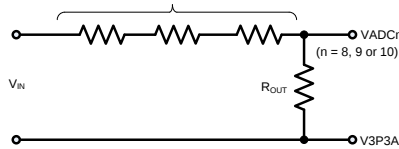
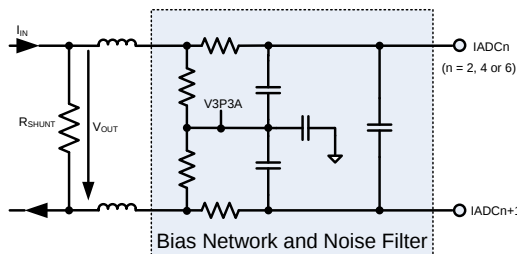
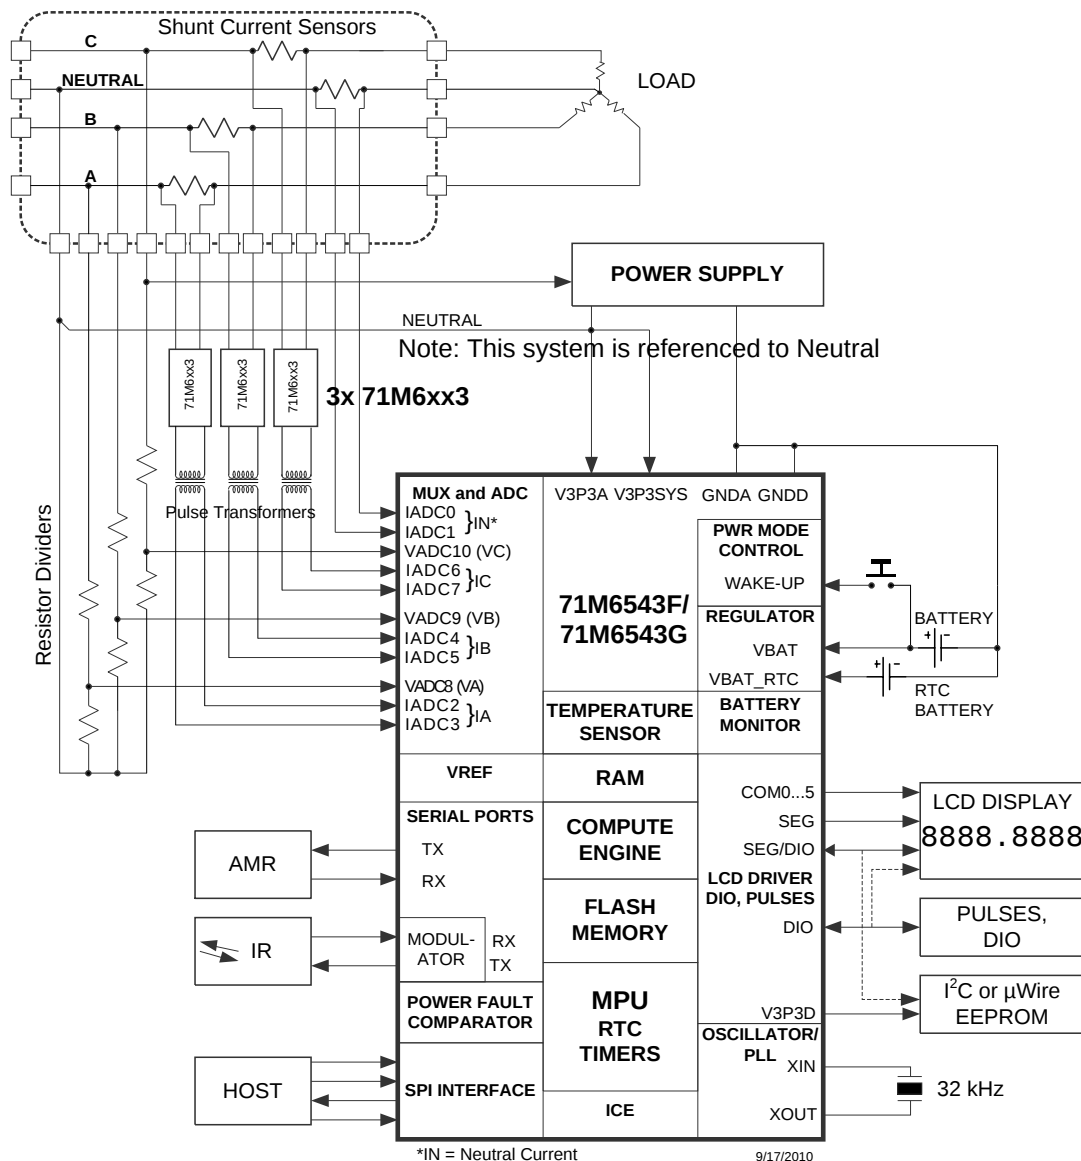
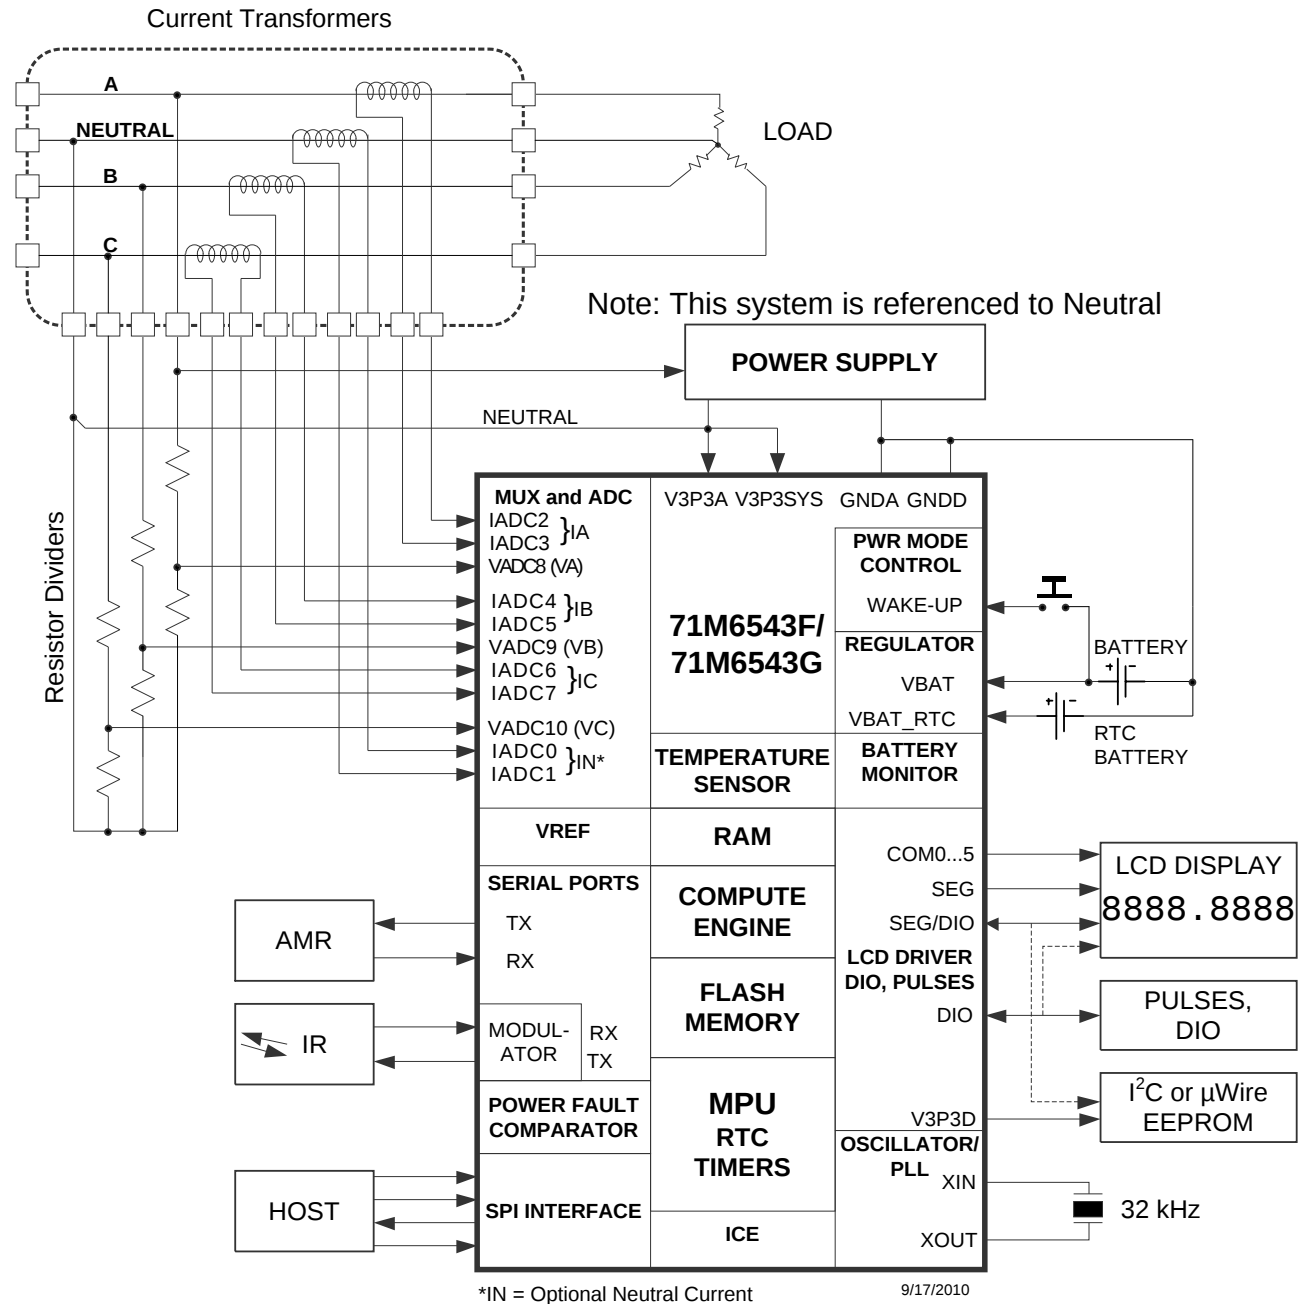

Figure 27: Resistive Voltage Divider (Voltage Sensing)
Figure 30: Differential Resistive Shunt Connections (Current Sensing)
Figure 31: System Using Three-Remotes and One-Local (Neutral) Sensor
Figure 32. System Using Current Transformers
Figure 27 through Figure 30 show voltage-sensing resistive dividers, current-sensing current transformers (CTs) and current-sensing resistive shunts and how they are connected to the voltage and current inputs of the 71M6543. All input signals to the 71M6543 sensor inputs are voltage signals providing a scaled representation of either a sensed voltage or current.
Figure 31 shows a typical connection for current shunt sensors; using the 71M6xx3 (polyphase) isolated sensors. Note that one shunt current sensor is connected without isolation, which is the neutral current sensor in this example (connected to pins IADC0-IADC1). Each 71M6xx3 device is electrically isolated by a low-cost pulse transformer. The 71M6543 current sensor inputs must be configured for remote sensor communications, as described in 2.2.8 71M6xx3 Isolated Sensor Interface (page 22). Flexible remapping using the I/O RAM registers $MUXn_SEL[3:0]$ allows the sequence of analog input pins to be different from the standard configuration (a corresponding CE code must be used). See Figure 2 for the AFE configuration corresponding to Figure 31.
Figure 32 shows a polyphase system using four current transformers to support optional Neutral current sensing for anti-tamper purposes. The Neutral current sensing CT can be omitted if Neutral current sensing is not required. The system is referenced to Neutral (i.e., the Neutral rail is tied to V3P3A and V3P3SYS).
This section discusses metrology temperature compensation for the meter designs where current shunt sensors are used in conjunction with the 71M6xx3 remote isolated sensors, as shown in Figure 31.
Referring to Figure 31, the VADC8 (VA), VADC9 (VB) and VADC10 (VC) voltage sensors are always directly connected to the 71M6543. Thus, the precision of the voltage sensors is primarily affected by VREF in the 71M6543. The temperature coefficient of the resistors used to implement the voltage dividers for the voltage sensors (see Figure 27) determine the behavior of the voltage division ratio with respect to temperature. It is recommended to use resistors with low temperature coefficients, while forming the entire voltage divider using resistors belonging to the same technology family, in order to minimize the temperature dependency of the voltage division ratio. The resistors must also have suitable voltage ratings.
Table 66 shows the five *GAIN_ADJx* equation output storage locations and the voltage or current sensor channels for which they compensate for the 1 Local / 3 Remote configuration shown in Figure 31.
Table 66: GAIN_ADJn Compensation Channels (Figure 2, Figure 31, Table 1)
This section discusses metrology temperature compensation for meter designs where Current Transformer (CT) sensors are used, as shown in Figure 32.
Referring to Figure 32, the VADC8 (VA), VADC9 (VB) and VADC10 (VC) voltage sensors are directly connected to the 71M6543. Thus, the precision of the voltage sensors is primarily affected by VREF in the 71M6543. The temperature coefficient of the resistors used to implement the voltage dividers for the voltage sensors (see Figure 27) determine the behavior of the voltage division ratio with respect to temperature. It is recommended to use resistors with low temperature coefficients, while forming the entire voltage divider using resistors belonging to the same technology family, in order to minimize the temperature dependency of the voltage division ratio. The resistors must also have suitable voltage ratings.
Table 67: $GAIN_ADJ_x$ Compensation Channels (Figure 3, Figure 32, Table 2)